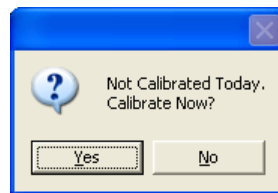
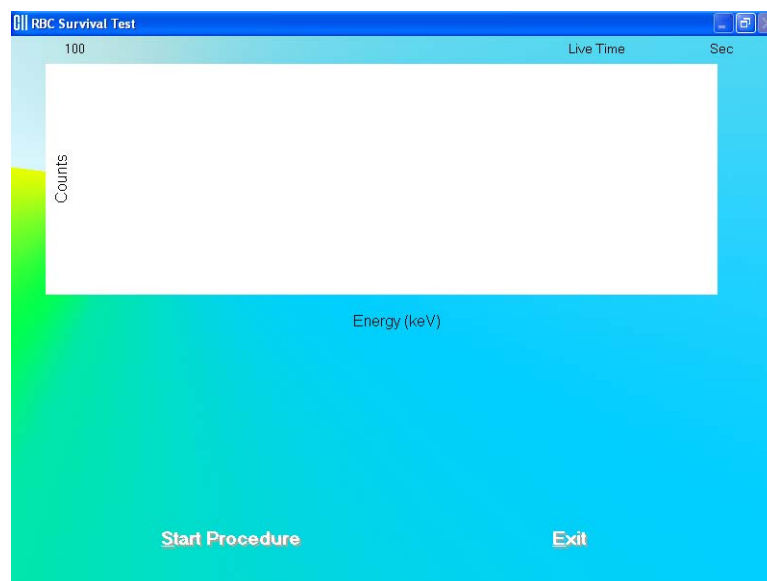

Figure 10-72
Figure 10-73
- To begin the measurements, click the **Count Selected Patient** button or press *Alt+C*. The screen appears as shown in Figure 10-73.
Note: If calibration has not been performed, you will be prompted with the screen shown in Figure 10-72. After the calibration is complete, the program will return to the Schilling Test measurement screen shown in Figure 10-73.
To abort the procedure, click the button or press the *Y* key. Collected data will be discarded and the screen will return to the RBC Survival Test measurement screen (Figure 10-73). To resume the test, click the button or press the *N* key.